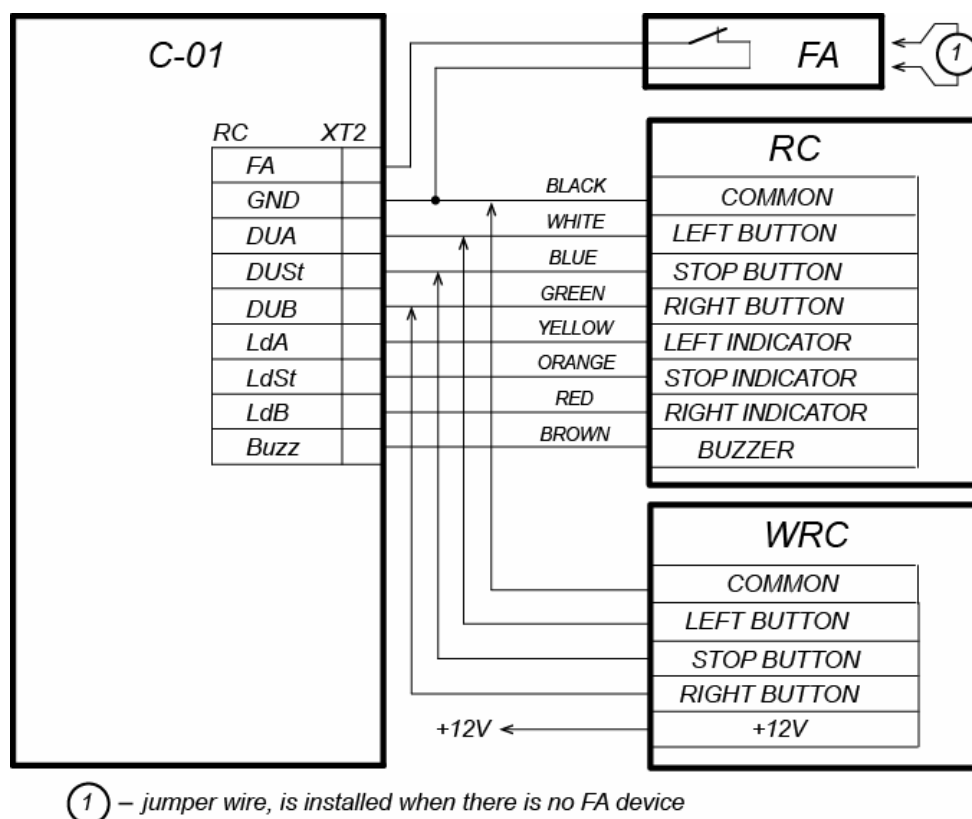

Figure 13. Connection scheme of RC-panel or WC of “Turnstile control” configuration
4. Connect RC-panel (or WC) to **XT2** connecting block of the lower board of the controller in compliance with the scheme (Figure 13).
The connection is made to contacts of **XT2** connecting block (Figure 13).